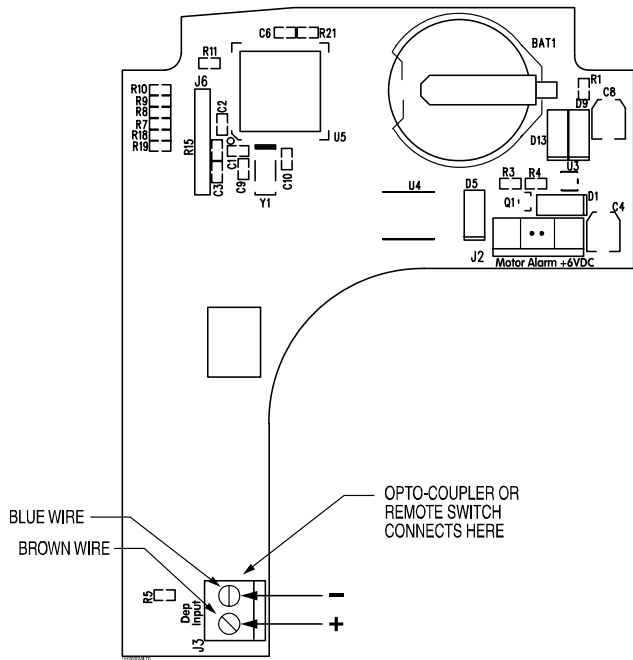

Figure 8c. Connecting Remote Switch or Opto-Couple (#067480)
When connecting the wire leads from the remote switch the orientation does not matter. Connect the wire leads to the terminal block marked “Dep Input” (J3) on the main circuit board (see Figure 8c).
2. Connect the leads of the white wire (blue and brown on Opto-coupler #067480) as indicated in the drawing. **The orientation is important.** The blue lead connects to the position closest to the coin cell battery (top) and the brown lead goes to the position closest to J3 (bottom). If these leads are reversed, the opto-coupler will not work and can be damaged. See Figure 8c.